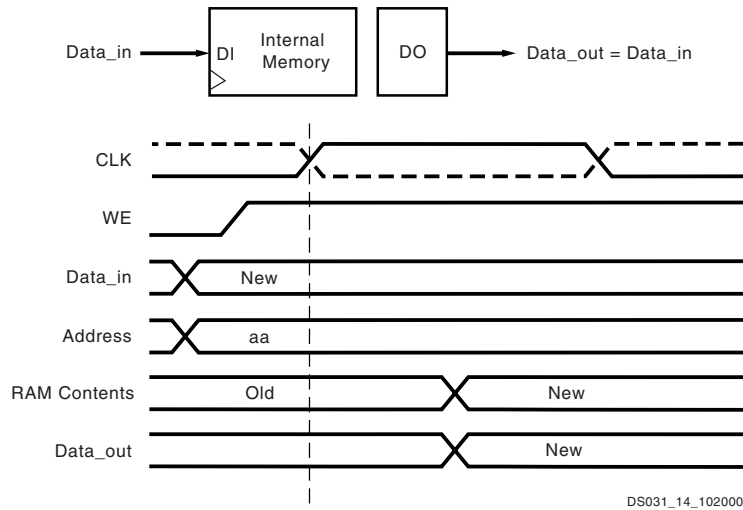

Figure 32: WRITE_FIRST Mode
The WRITE_FIRST option is a transparent mode. The same clock edge that writes the data input (DI) into the memory also transfers DI into the output registers DO as shown in Figure 32, page 31.